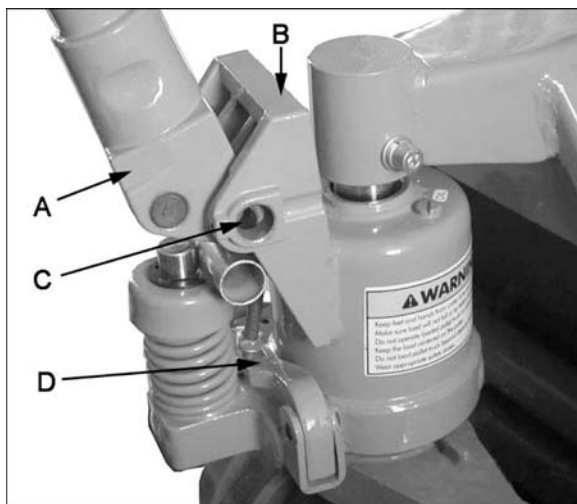

Figure 2
1. Insert the base of the handle (A, Figure 2) into the pump bracket (B, Figure 2).
2. Align the holes (C, Figure 2) at the base of the handle with the holes in the pump bracket.
3. Using a screwdriver, pry the cam (D, Figure 2) up and slip the bolt head under the notch in the cam. **Do not adjust the nut.**